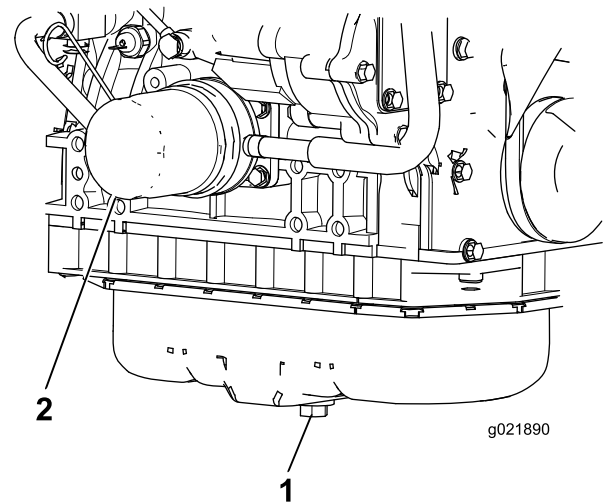

Figure 66
1. Remove the engine oil drain plug (Figure 66) and let the oil flow into a drain pan. When all the oil is drained, install the drain plug.
2. Remove the oil filter (Figure 66). Apply a light coat of clean oil to the new filter seal before screwing it on. **Do not overtighten.**